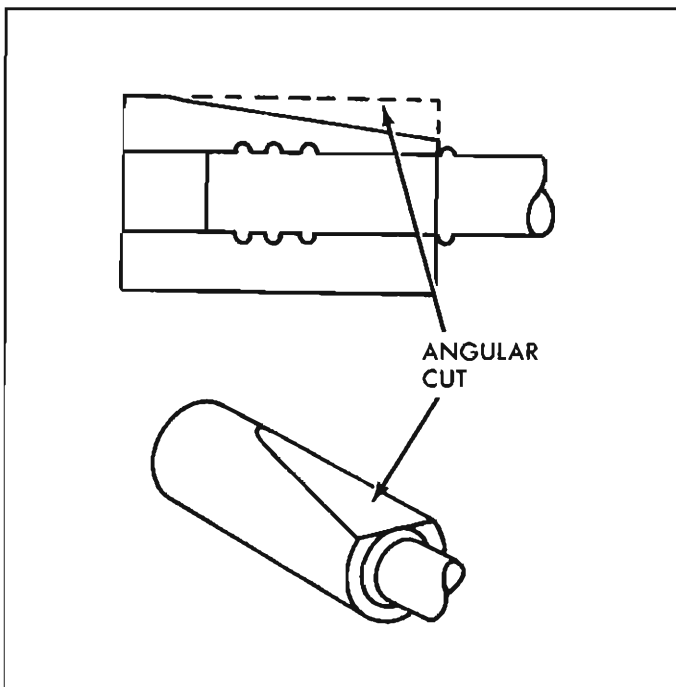

Fig. 11-18—Recommended Hose Removal Procedure
1. Carefully, with a sharp knife, make an angle cut in the hose as shown in Figure 11-18. This should loosen the hose so that it may be worked off the fitting.